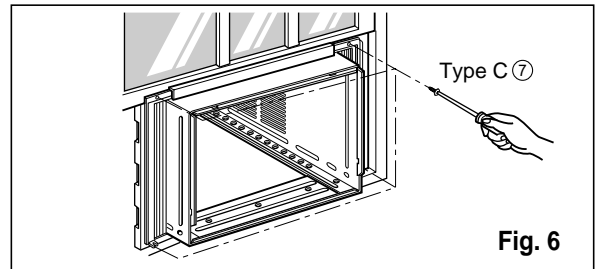

Fig. 6
4. Remove the backing from the top upper guide FOAM-PE ⑩ and attach it to the bottom of the upper guide ⑨.
6. Insert the frame guides ⑪ into the bottom of the cabinet.
7. Insert the Frame Curtain ① into the upper guide ⑨ and frame guides ⑪.
9. Attach each Frame curtain to the window sash using screws ⑦ (Type C). (See Fig. 6)